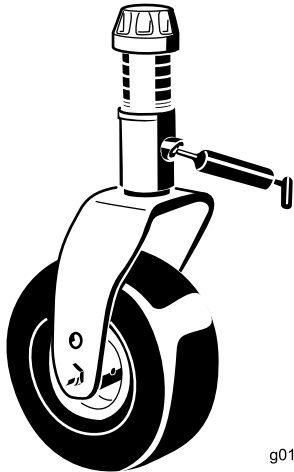

Figure 13
- Caster fork shaft bushings (4) (Figure 13)